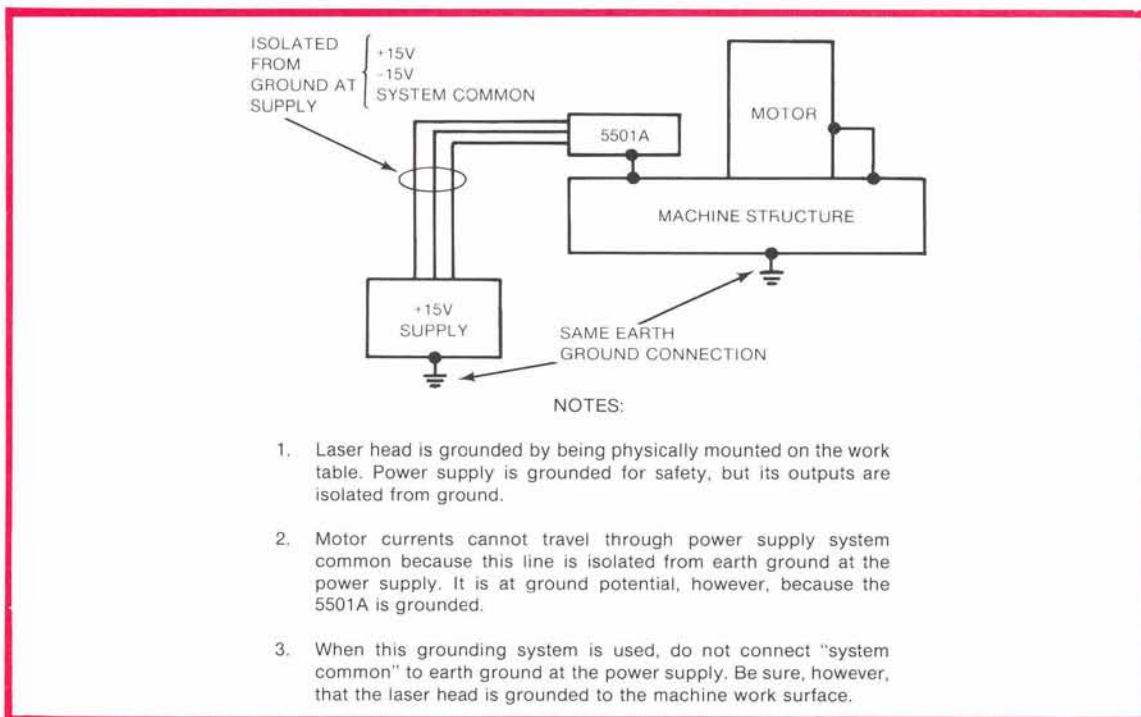

Figure 5-1. AC Power Grounding
- a. A system can be interconnected so that an electrical shock hazard exists. External parts of various system components can be at different electrical potentials due to incomplete system grounding. (See *Figure 5-1*).